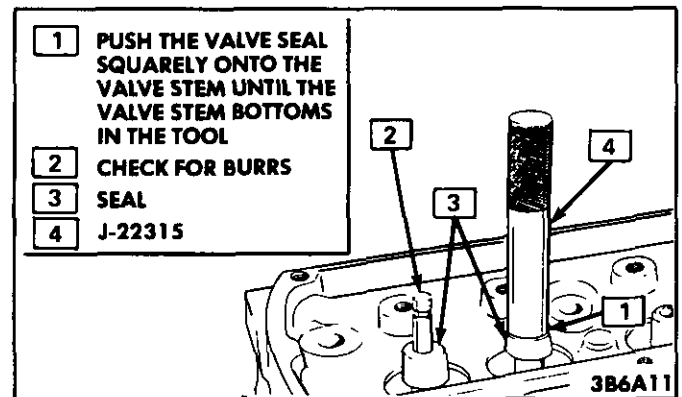

Figure 10 Locating Valve Seal (Typical)
- If seals are the **Umbrella type**, push them down as far as they will go (Figure 10). If oversized valves have been installed, oversized valve stem seals must be used. Intake and exhaust valve stem seals may be different.